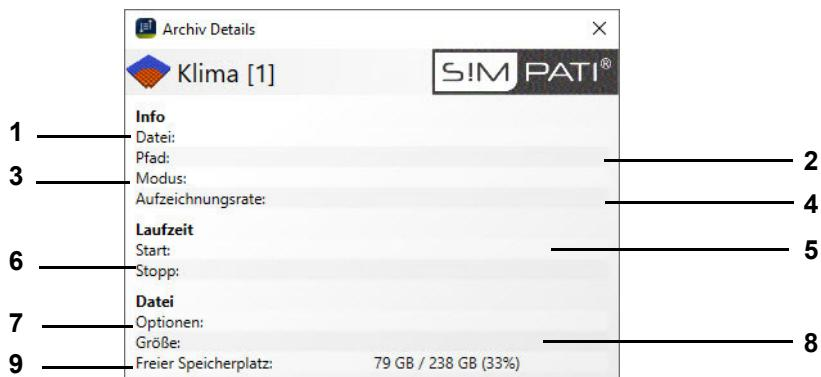

Fig. 10-5 Window with archiving information in automatic/program mode
- 12 If the test is to be recorded, a menu window with archiving information will be available → Fig. 10-5 »Window with archiving information in automatic/program mode« (page 90).